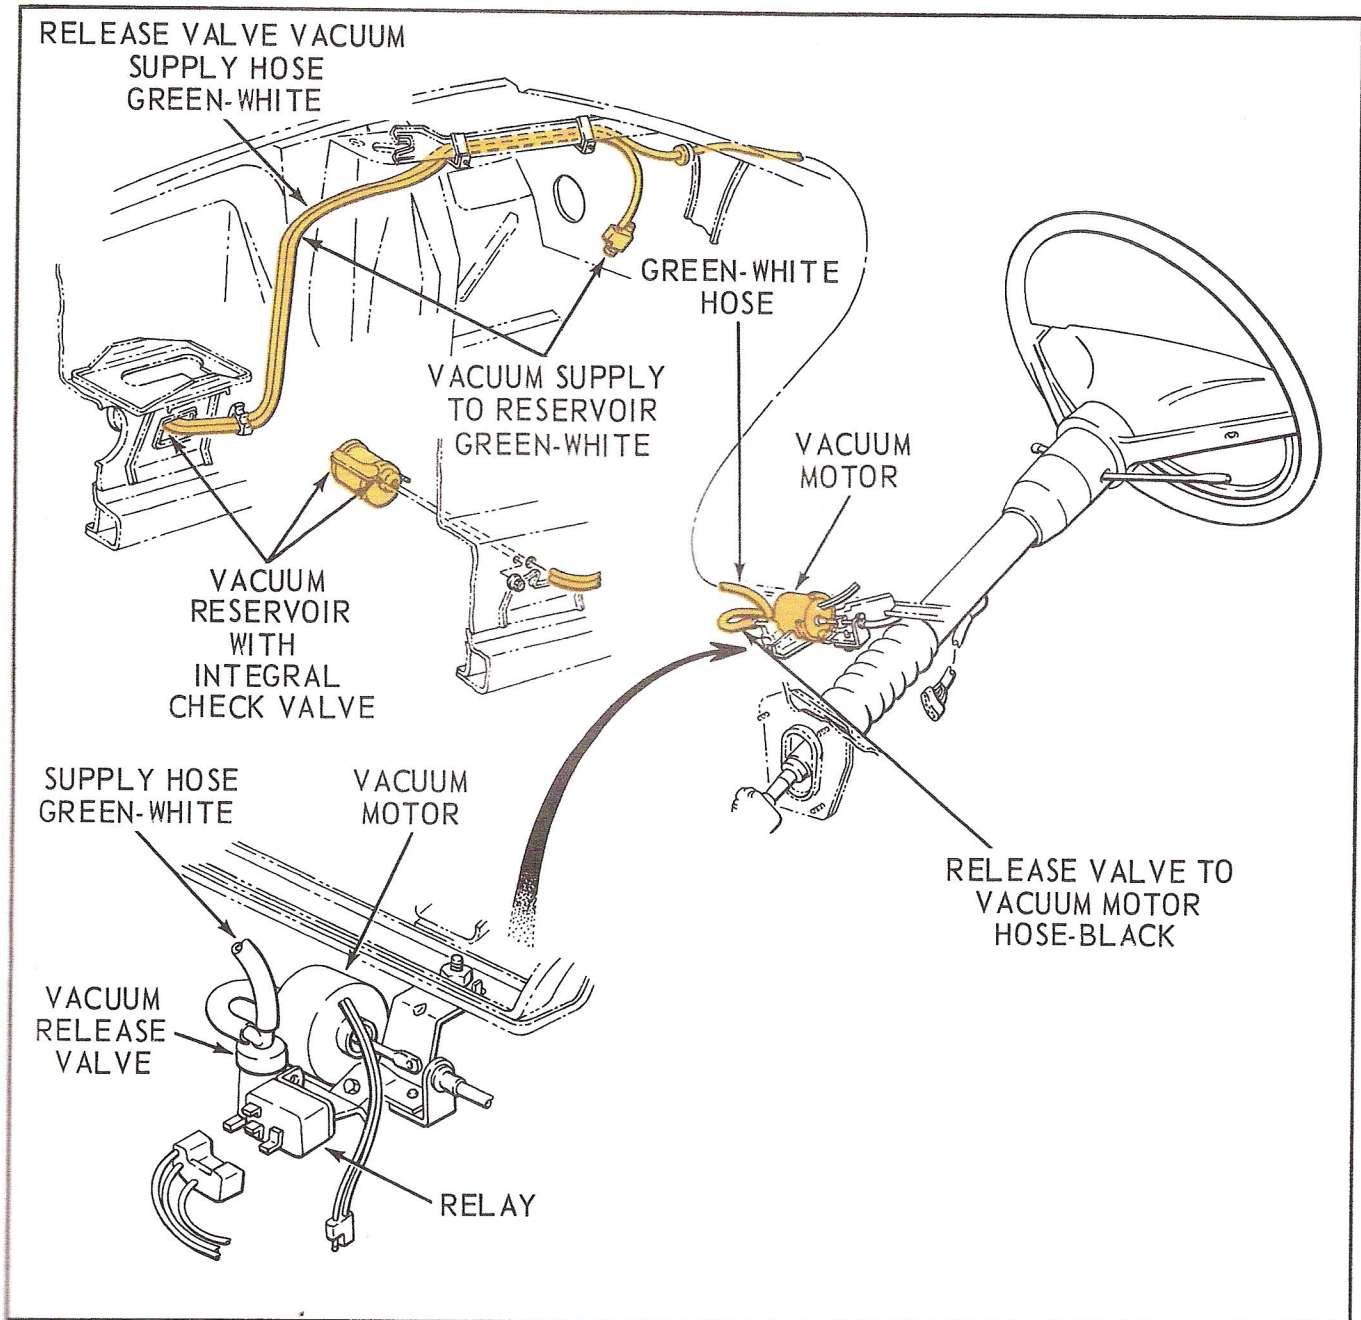

Fig. 39 - 1968 Cougar Tilt-Away Steering Column
A dual-action (tilt-away type) steering column features nine driving positions (four up and four down from a center position) and a tilt-away position that is automatically accomplished when the ignition key is turned to the OFF position and the left door is opened. This completes an electrical circuit through a relay, mounted with the vacuum release valve and tilt column vacuum motor to the right of the steering column and switch in the left door jamb. See Figure 39. The vacuum release valve is connected to a vacuum reservoir located on the right side of the dash panel in the engine compartment and to a vacuum motor located on the lower end of the steering column tube by vacuum hoses. When the vacuum release valve is energized electrically, it opens a valve and allows reservoir vacuum to act on the vacuum motor diaphragm to pull the pawl out of the lower flange at the upper end of the column. Spring tension then moves the steering wheel upward and to the right at approximately a 45° angle (tilt-away position). The column will remain in the tilt-away position until the driver manually moves the column to the drive position after the left door has been closed.
1. Check vacuum hoses for proper connection and color code at the component connections. (Refer to figure 39.)